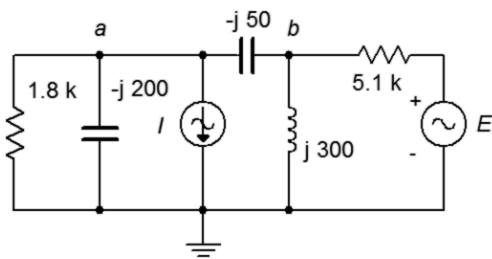

Figure 5.14
27. For the circuit of Figure 5.14, use Superposition to determine the inductor current. $I = 100\text{E}-3\angle 0^\circ$ and $E = 26\angle 0^\circ$.
28. For the circuit of Figure 5.14, use Superposition to determine v_{ab} . $I = 50\text{E}-3\angle 0^\circ$ and $E = 18\angle 90^\circ$.